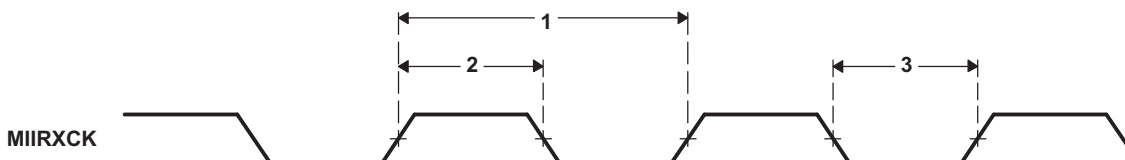

**Figure 5-37. 100/10Mb/s MII Receive Clock Timing**
**Table 5-60. Timing Requirements for MIIRXCK (see Figure 5-37)**